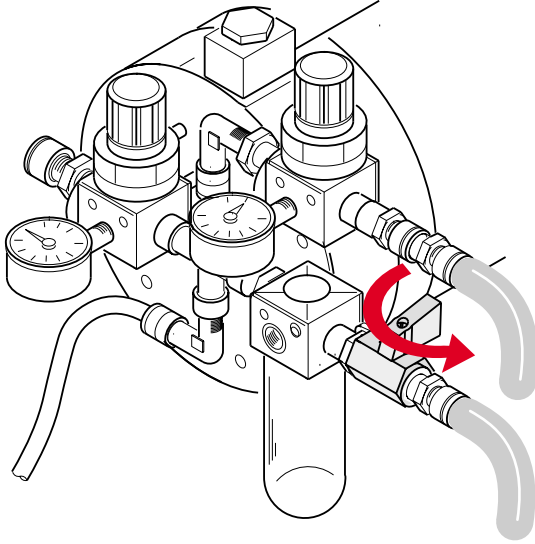
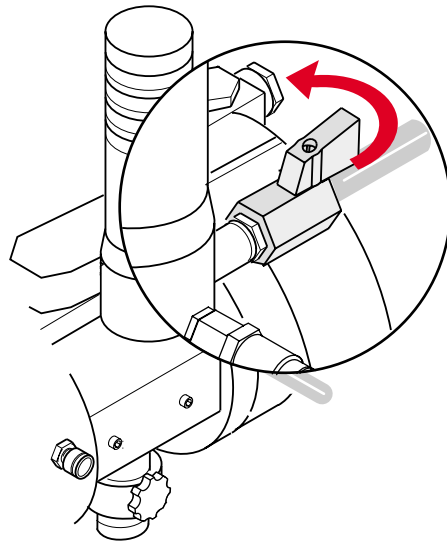

Fig.44
Fig.45
6) Close the air supply entrance (fig. 44) and open the recycle tap (fig 45) to remove all of the solvent and the air still to be found inside the circuit.